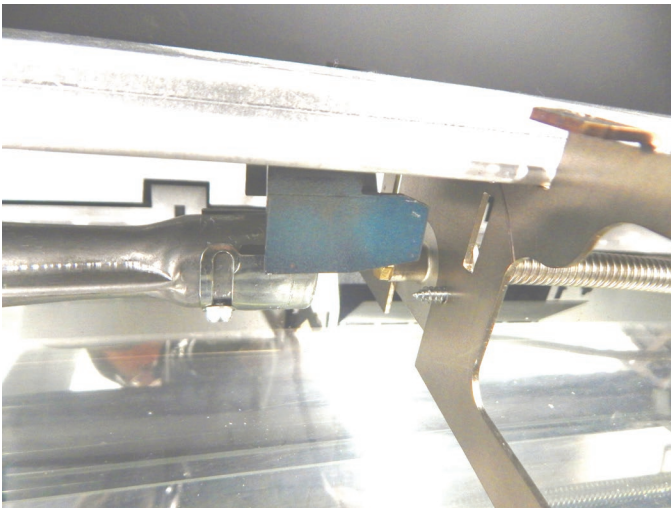

Figure 5
11. The Burner assembly can now be shifted to the left about 1 inch to release the air shutter off of the orifice holder. The outer burner brackets may need to be gently tapped to the left to assist in the burner to move to the left. There are (4) burner lock down tabs under the center of the burner assembly. These tabs interlock with slots in the two center burner brackets. **See Figure 5.** Once these tabs are unlocked from the center burner brackets, the Burner assembly can be lifted upward a few inches to gain access to the orifice and air shutter. It is recommended that the burner assembly be supported, and the Glass hearth panel be protected from damage.